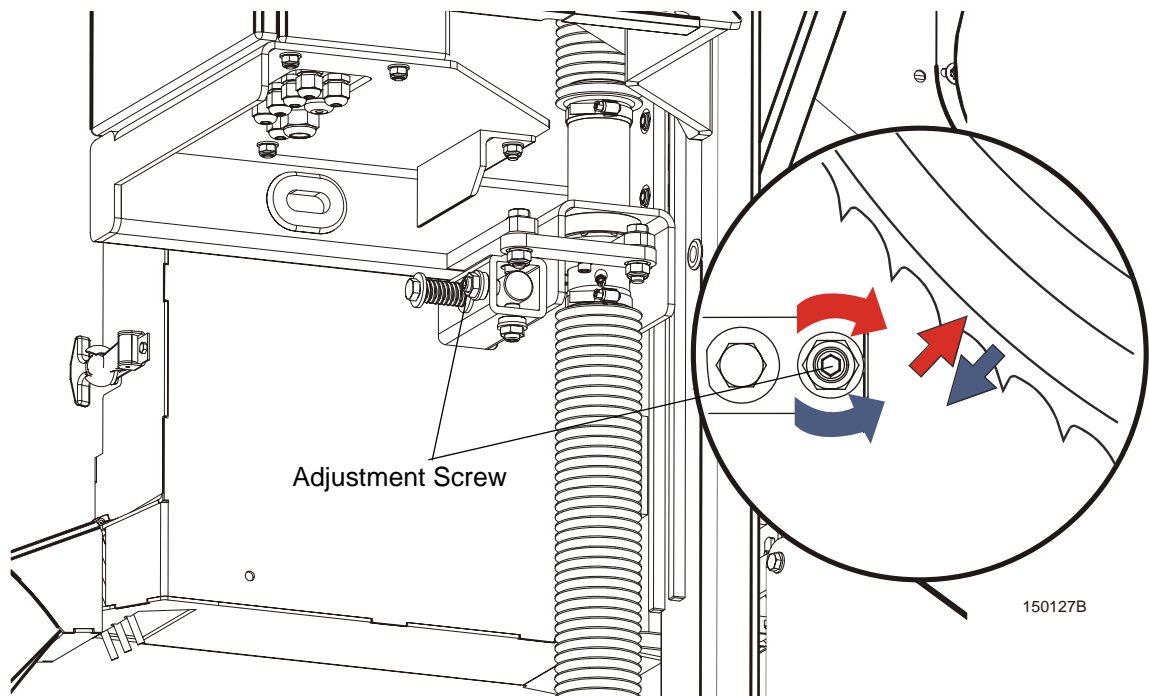

FIG. 6-7
**See Figure 6-7.** Use the horizontal adjustment screw to adjust the drive-side blade wheel. Loosen the jam nut on the adjustment screw. Loosen adjustment screw to move blade out on wheel. Tighten adjustment screw to move blade in on wheel. Tighten the jam nut.